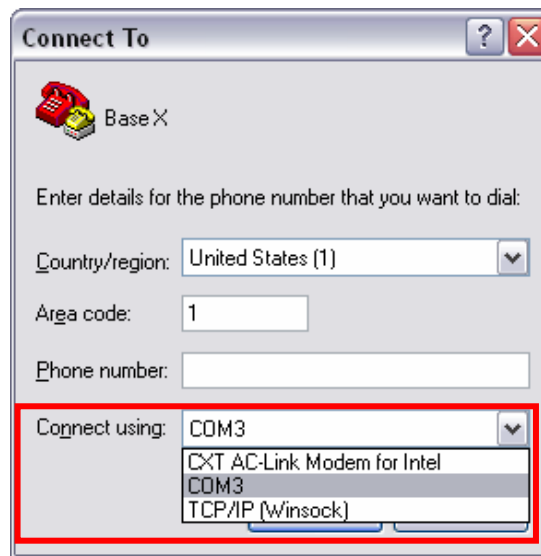

Figure 7: Select COM Port
6. The Connect To window will then be displayed (**Figure 7** below)